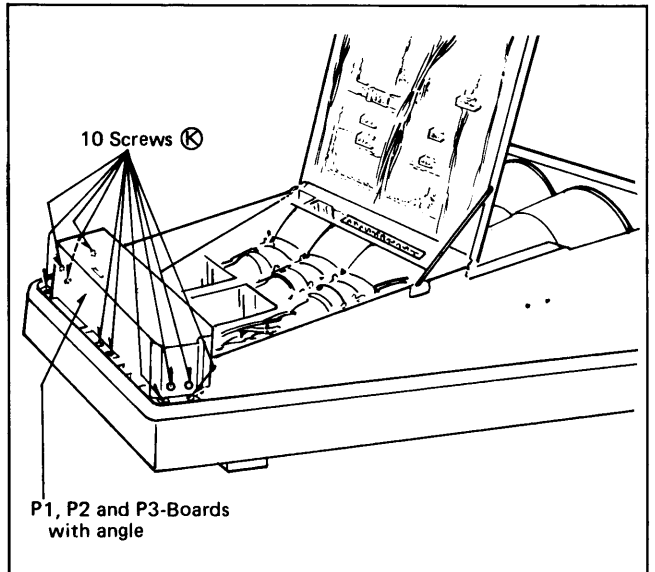

Fig. 10
- Remove 10 screws (K), and then carefully pull and lift the "P1", "P2" and "P3"-Boards with angle as shown in Fig. 10.